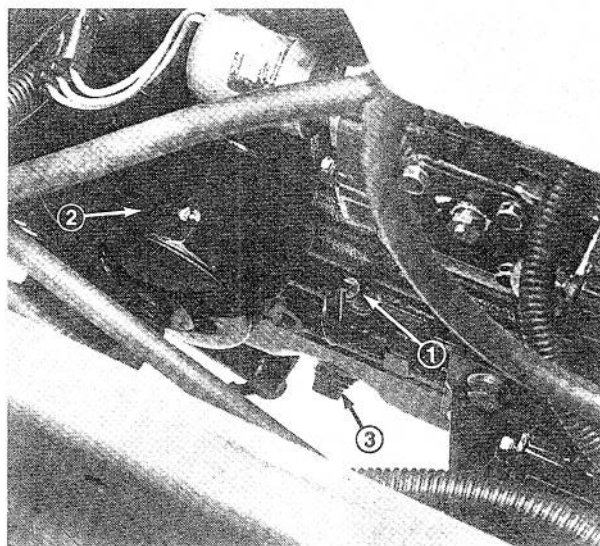

Figure 34
2. Open the hood. Set drain pan under the oil pan and in line with drain plug (Fig. 34).
4. Remove oil drain plug and allow oil to flow into drain pan. Remove and replace oil filter (Fig. 34); refer to parts catalog for part number.